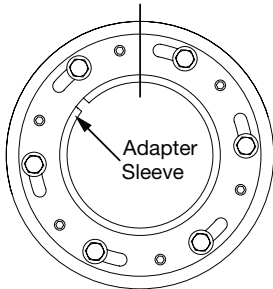

Figure 2. Mark face of external nut and adapter.
- Important: Mark a line on the adapter and external nut to be used as a location reference, see Figure 2. This is a critical point and represents the location of the nut assembly before the hex head bolts are tightened.**